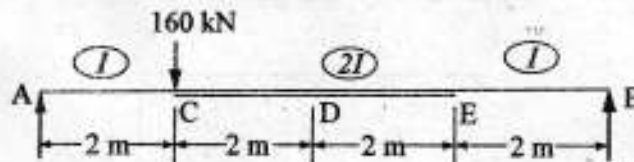

Fig. 4
- (c) Determine the rotations at A, B and deflections at D, E in the beam shown in figure 4 using conjugate beam method. 8